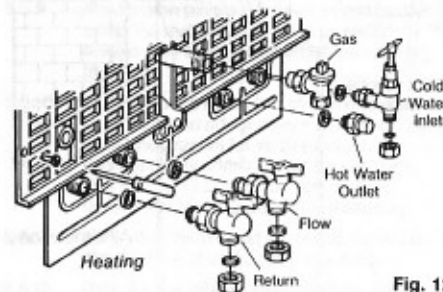

Fig. 12
- 5.3.4** Loosely fit (hand tight) the valves and fittings using the washers supplied (Fig 12)
- 5.6.1** Figs. 12 and 16 show the locations of the fittings.